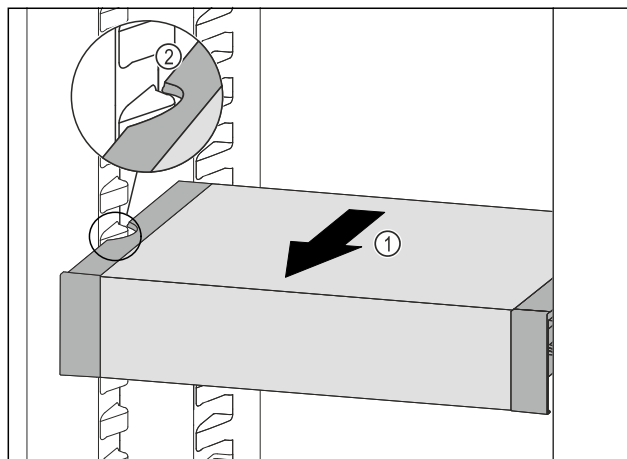

Fig. 91
- Pull VarioSafe forwards Fig. 91 (1) until the recesses in the side of the VarioSafe are at the level of the support rib in the fridge section. Fig. 91 (2)